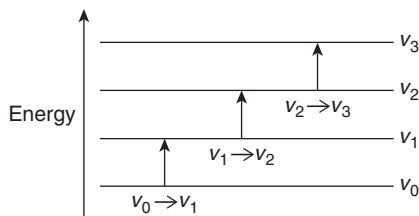

Figure 6 Vibrational energy levels showing different vibrational transitions.
- Stretching of heterodiatomic molecules brings change in magnitude of dipole moment and hence these are called **IR active molecules**. Such molecules are hydrogen chloride (HCl), hydrogen bromide (HBr), hydrogen iodide (HI), carbon monoxide (CO), etc.
- Absorption of infrared radiation takes place when there occurs changes in vibrational energy levels by  $\pm 1$  unit ( $\Delta v = \pm 1$ ) as shown in Figure 6. Since molecules exist in the ground vibrational energy level ( $v_0$ ), most common transitions are from  $v_0$  to  $v_1$  ( $v_0 \rightarrow v_1$ ).